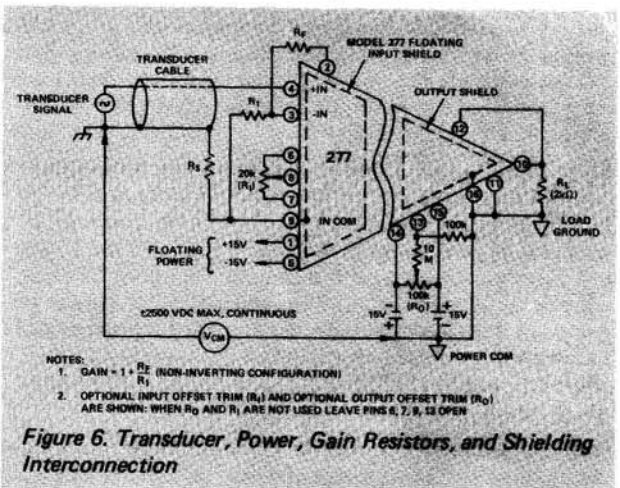

Figure 6. Transducer, Power, Gain Resistors, and Shielding Interconnection
Model 277 CMR performance is best preserved by using shielded signal cable with the shield connected as close as possible to signal low and IN COM to reduce pickup (see Figure 6).
- (1) Refer to Figure 6 for terminal and component designations.
- (2) Connect IN COM to OUT COM and set input signal to zero.
- (3) Place floating DVM across IN FDBK and OUTPUT terminals.
- (4) Null DVM reading using output offset trim potentiometer  $R_O$ .
- (5) Disconnect IN COM from OUT COM.
- (6) Place DVM across IN FDBK and IN COM terminals.
- (7) Adjust input offset trim potentiometer,  $R_1$ , until DVM reads zero volts.